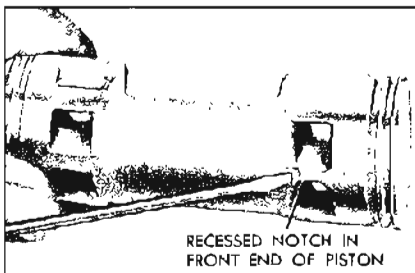
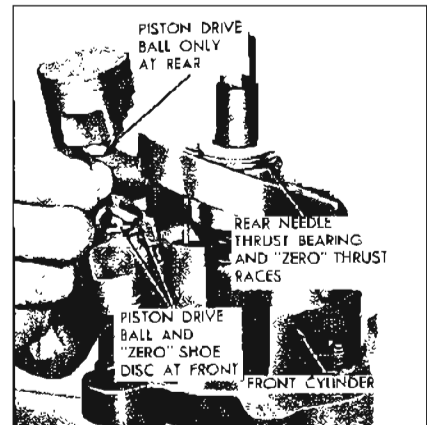

Figure 11-80—Piston Identification
Figure 11-83—Installing Piston into Cylinder Half
The front end of the piston may be identified by a recessed notch (see Figure 11-80).
25. Rotate shaft and swash plate assembly until high point of swash plate is over No. "1" cylinder bore. Position No. "1" piston onto swash plate (see Figure 11-83) and lower the piston and swash plate so the front end (notched end--see Figure 11-80) of the piston enters the cylinder bore.